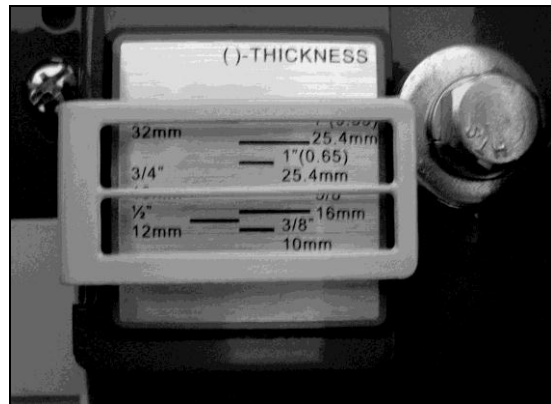

Figure 6
4. A reference gauge (Figure 6) indicates the approximate tension setting for the width of blade being used. Turn the tensioning handwheel until the indicator falls on the appropriate mark. Keep in mind that blades will last longer if you release tension when not in use. Also, new blades will often stretch with use, and not all blades will be exactly the same length.